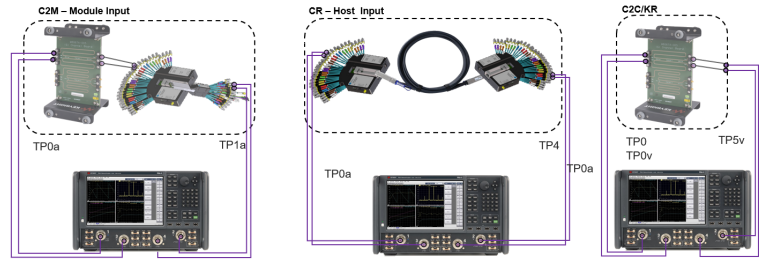

Figure 35 Connection diagram for calibration channels
- 1 Measure the scattering parameters S_{tc} on the Test channel (TPt to TP5 replica) using a network analyzer as illustrated in Figure 35 or use the S4p provided with the ISI trace (see KR Configuration in the Test App / 111 for the S4p file format requirements).